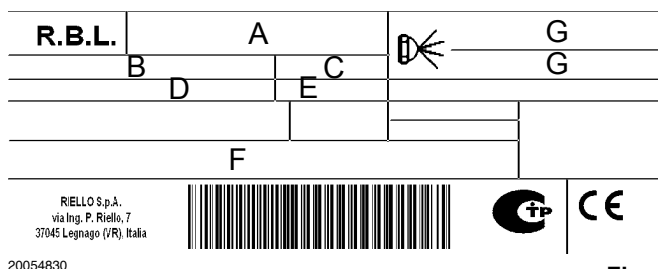

Fig. 6
- the model (see **A** in Fig. 6) and type of burner (**B**);